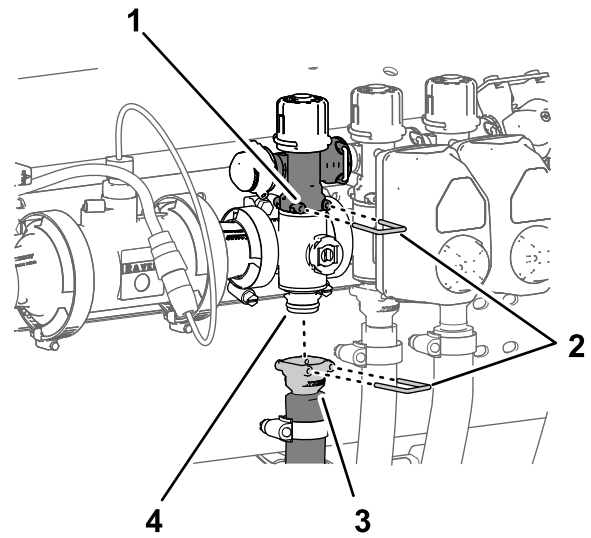

Figure 116
1. Remove the quick-connect pin that secures the quick-connect coupler for the section-bypass valve to the section-manifold valve (Figure 116).
2. Remove the quick connect pin that secures the quick-connect coupler for the section supply hose to the manifold for the quick-connect fitting of the section-manifold valve (Figure 116).